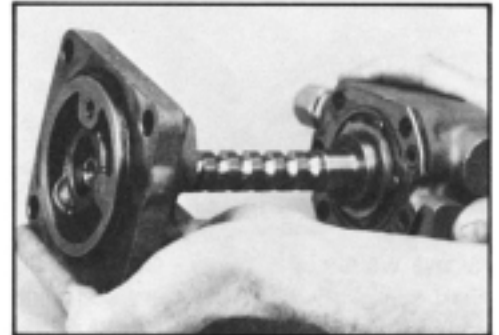

Figure 73
27. Remove adaptor (18) from worm shaft (23). SEE FIGURE 73. Remove and discard seal ring (8) and two seal rings (16).